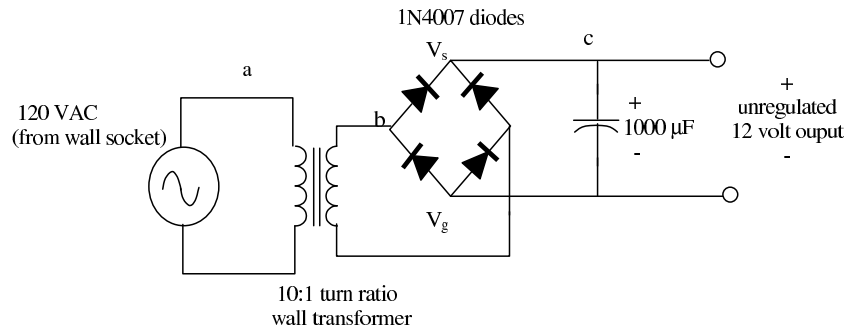
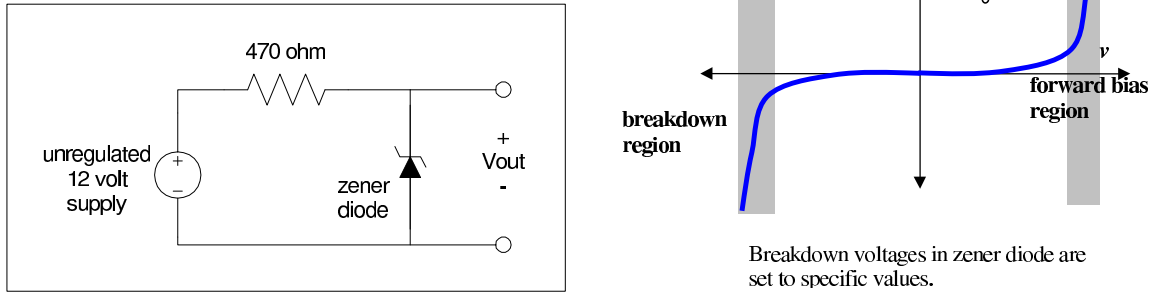

FIGURE 6. Full wave rectifier
FIGURE 7. Zener Diode Voltage Regulator
While the half-wave rectifier has the virtue of simplicity, it lacks efficiency because we are throwing away the negative side of the waveform. A better solution would be to use the power in both sides of the waveform. Circuits that do this are called *full-wave rectifiers*. In particular, you can use the following circuit shown in figure 6 to build the full-wave rectifier. The left-hand side of this circuit is the full wave bridge. This part of the circuit consists of four specially arranged diodes. The output of the full wave rectifier is is, essentially a 12 volt DC supply. There will be a small ripple on this supply, but you won't really be able to notice it even if you look at the waveform using the oscilloscope.
The circuit shown in figure 6 generates a DC voltage of 12-volts and ground across the two terminals marked V_s and V_g . Your MicroStamp11, however, requires a 5 volt supply. We can step down this 12 voltage voltage to a 5 voltage voltage in several ways. One method is to use a Zener diode to clamp the voltage at 5 volts. A zener diode is a diode whose breakdown voltages has been designed to sit at a specific voltage level. The circuit shown in figure 7 performs this function. The resistor in series with the diode is used to limit the output current, typical values are on the order of 100-500 ohms.
- (1) Sketch the time-varying waveforms you expect to see at nodes a , b , and c in figure 6.
- (2) Explain in your own words how your power supply works.
- (3) Draw the complete schematic diagrams for a power supply that uses the LM7805 to regulate the output voltage. Draw another complete schematic for the circuit that uses the Zener diode to regulate the output voltage.
- (4) For both circuits, plot the delivered output voltage you expect your source to supply as a function of the load resistance.
- (5) Draw a sketch of your breadboard layout for your power supply using the voltage regulator.